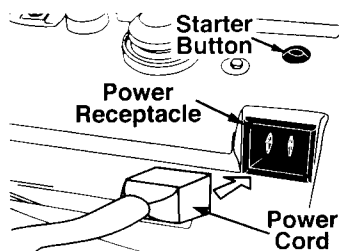

FIGURE 5
**Electric Start Model:** See figure 5.